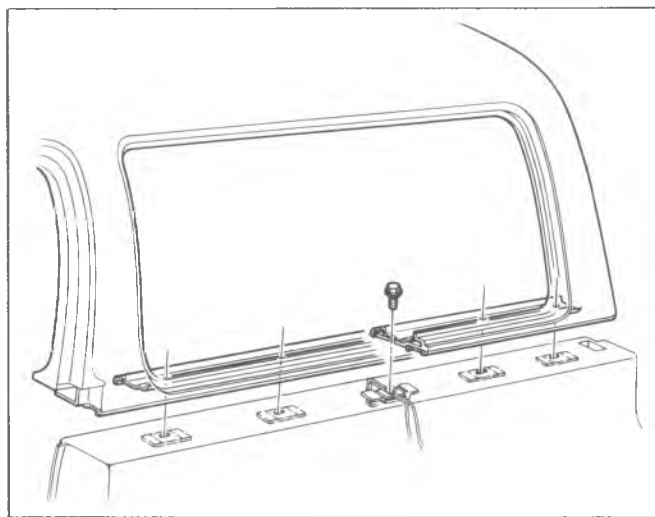

Fig. 72—Removable Top
2. Remove the bolts which retain the top to the body side panels, shown in figure 72.
- a. Fabricate 2 braces 72" long from wood or square aluminum tubing. Drill two (2) 3/8" diameter holes, 63 inches apart in the brace.